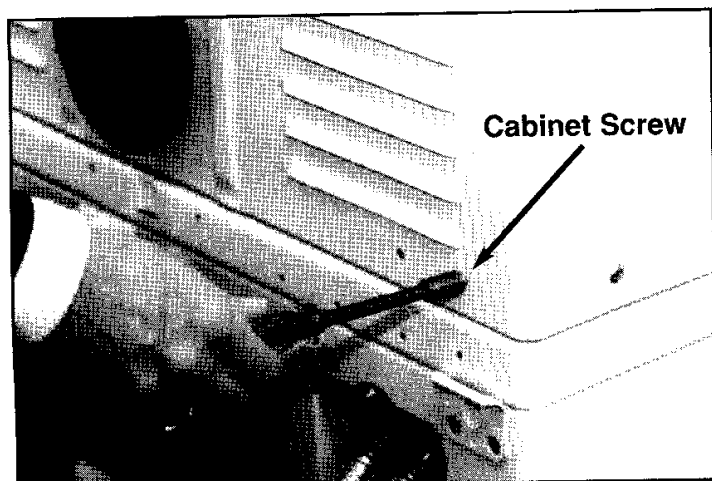
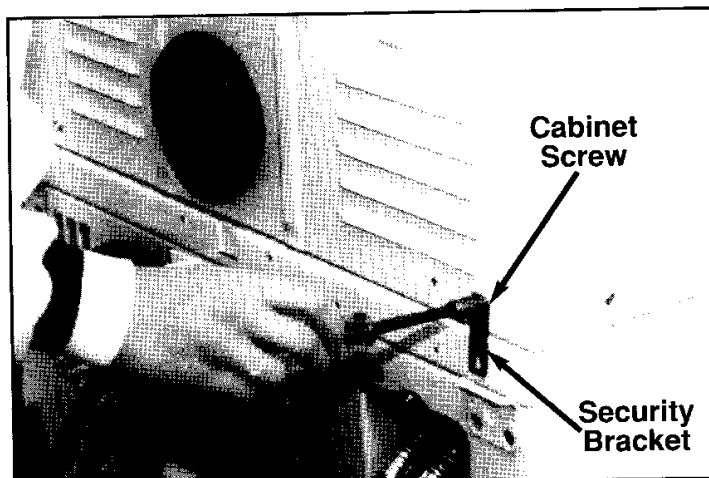

Figure 54
Figure 55
Remove the 2 outer screws in the back of the cabinet closest to the sides (see figure 54) and secure the security brackets (2) to the upper cabinet. **NOTE:** Slotted hole is oriented down. (See figure 55.) Do not tighten until the next step is completed.